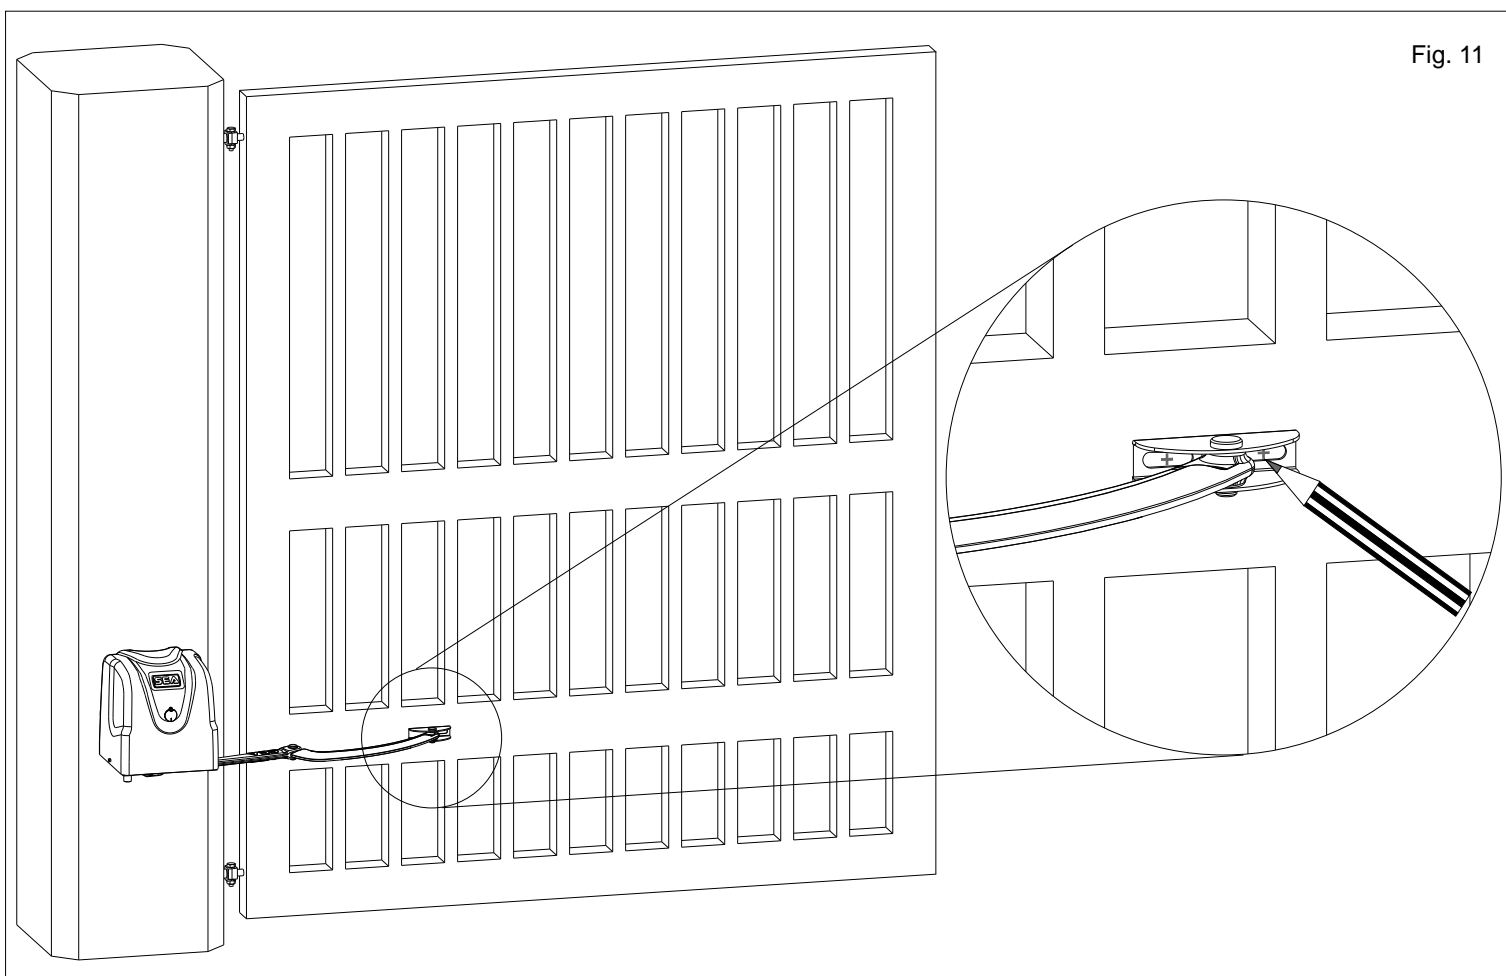

Fig. 11
- Extend the articulated arm as in Fig. 4, lean the adjustable front bracket on the gate and make two marks on the centre of the two buttonholes (Fig. 11)